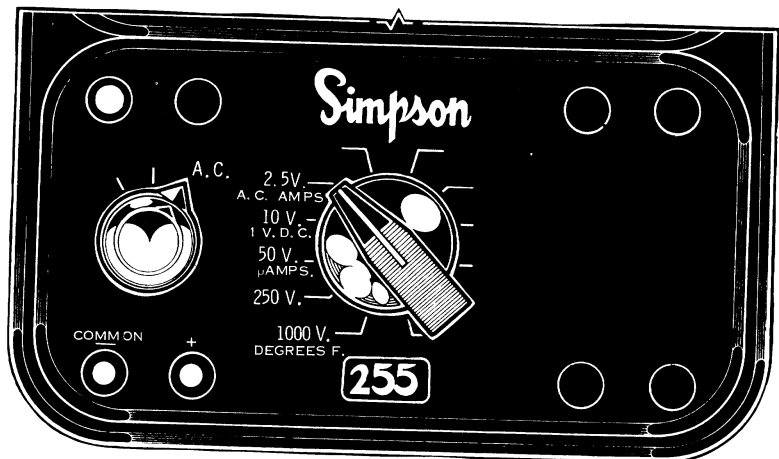

Figure 4-2. Jacks and Switch Positions for AC Volts
- Set the function switch to AC (Figure 4-2).
- Read the voltage as follows (Figure 4-2):